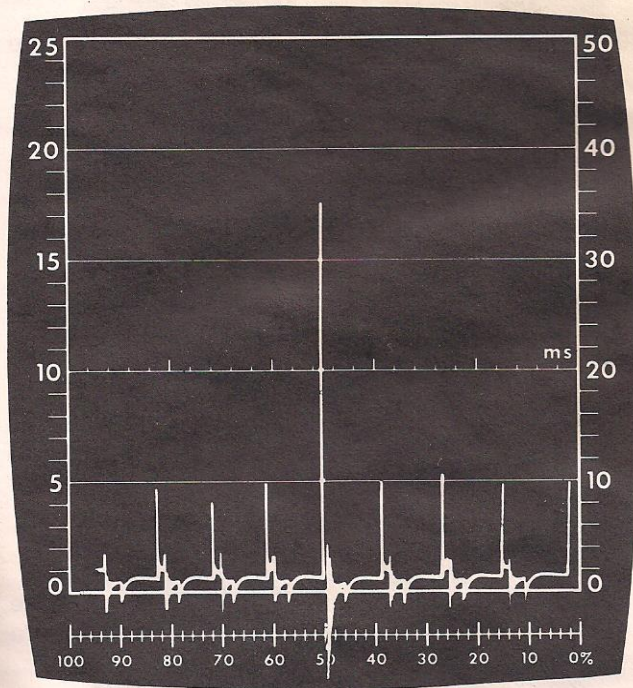

FIGURE 35—Maximum available coil output voltage.
7. Note and record maximum rise of waveform on 50 KV scale (Figure 35).